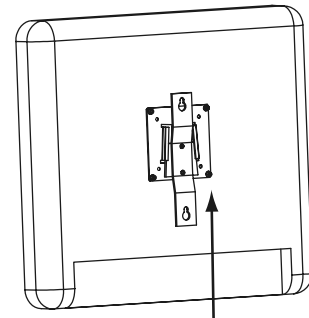

Figure 3
- ④ Snap the wall bracket to the mounting plate (see Fig. 3)